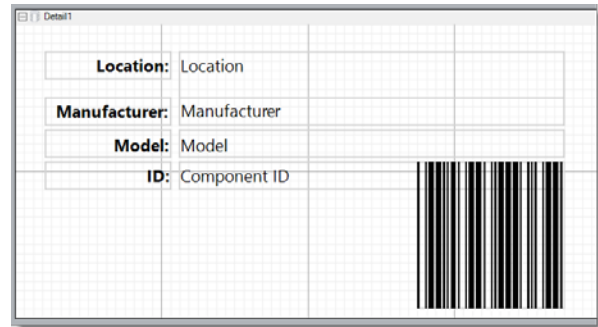

Figure 21. Barcode added
7. Select the Barcode control from the ToolBox. Drag a control on the bottom-right corner of the report. Select the new control and set the Size property to 1,1. The results should look similar to Figure 21.